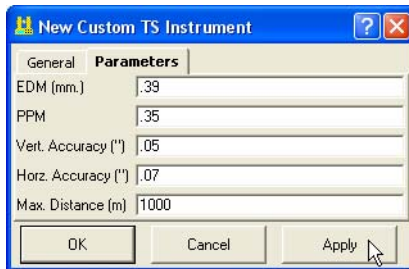

Figure 5-87. New Custom TS Instrument – Parameters
- Click the **Parameters** tab and enter the *EDM*, *PPM*, vertical and horizontal accuracies, and maximum distance (Figure 5-87).